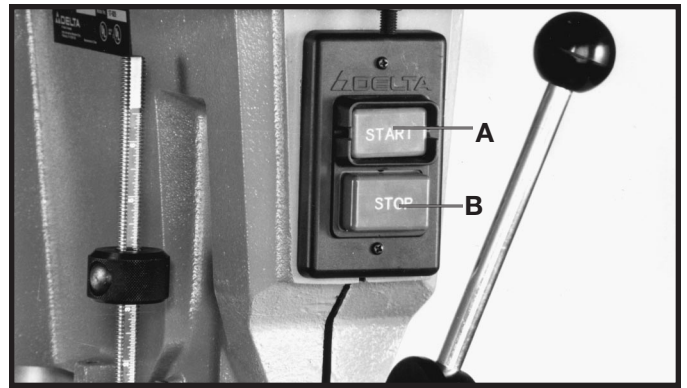

Fig. 23
The power switch is located at the front of the drill press head. To turn the machine “ON” press the green start button (A) Fig. 23. To stop the drill press, push the red stop button (B).